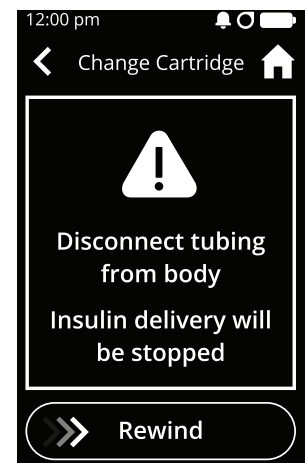

Figure 57
- b. Drag the Rewind slider to the right (see Figure 57).